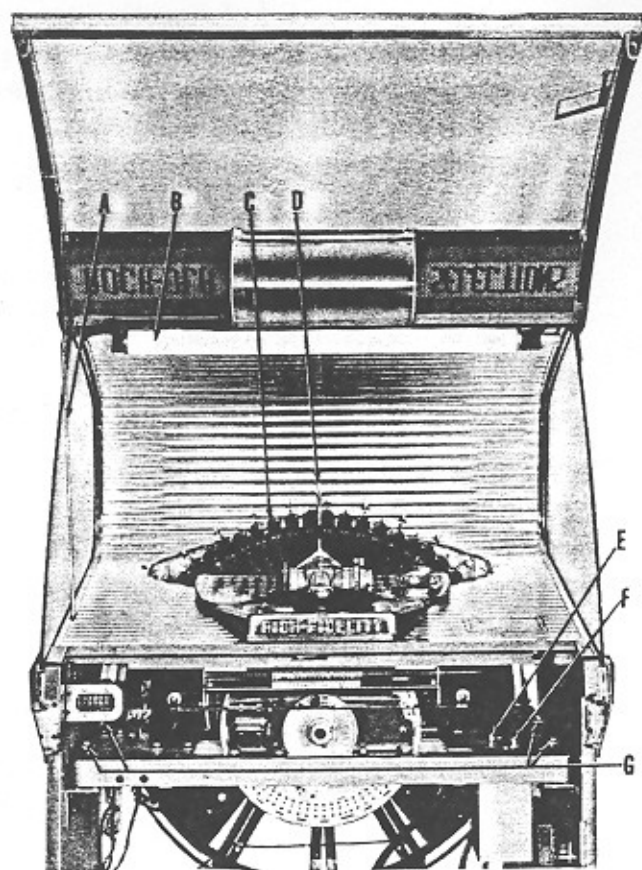

FIG. 4—Inside View of Cabinet
2. Cabinet lighting is accomplished with 20-watt fluorescent tube located in dome at (B-Fig. 4). The fluorescent starter is located at the right side of the tube.
The top dome is held in an open position by means of locking latch (A-Fig. 4). The latch bar is held firmly in place by a spring lock which applies pressure against the locking latch.
Four anchor bolts (G-Fig. 4) must be unscrewed as far as possible before operating phonograph. These bolts must be tightened securely whenever the phonograph is transported.
Mechanism power switch (F-Fig. 4) located on front side of the chassis in the control box may be operated at any time to stop mechanism at any point of operation. For service purposes, make certain that switch is left in "ON" position after servicing mechanism.
Depressing the record load switch (E-Fig. 4) located to the left of the mechanism power switch in the control box, causes the record magazine (C-Fig. 4) to rotate. Releasing the record load switch will stop the record magazine in any position to install or remove records.
1. Depress "RECORD LOAD" switch (E-Fig. 4) and hold down until record magazine rotates.
2. If record magazine does not rotate due to phonograph being in "Music play" position; place tone-arm in record cut-off groove and allow grip arm (D-Fig. 4) to return record to record magazine. The record magazine will then rotate.
3. After record magazine begins to rotate, move "Mechanism Power" switch (F-Fig. 4) to "OFF" position.